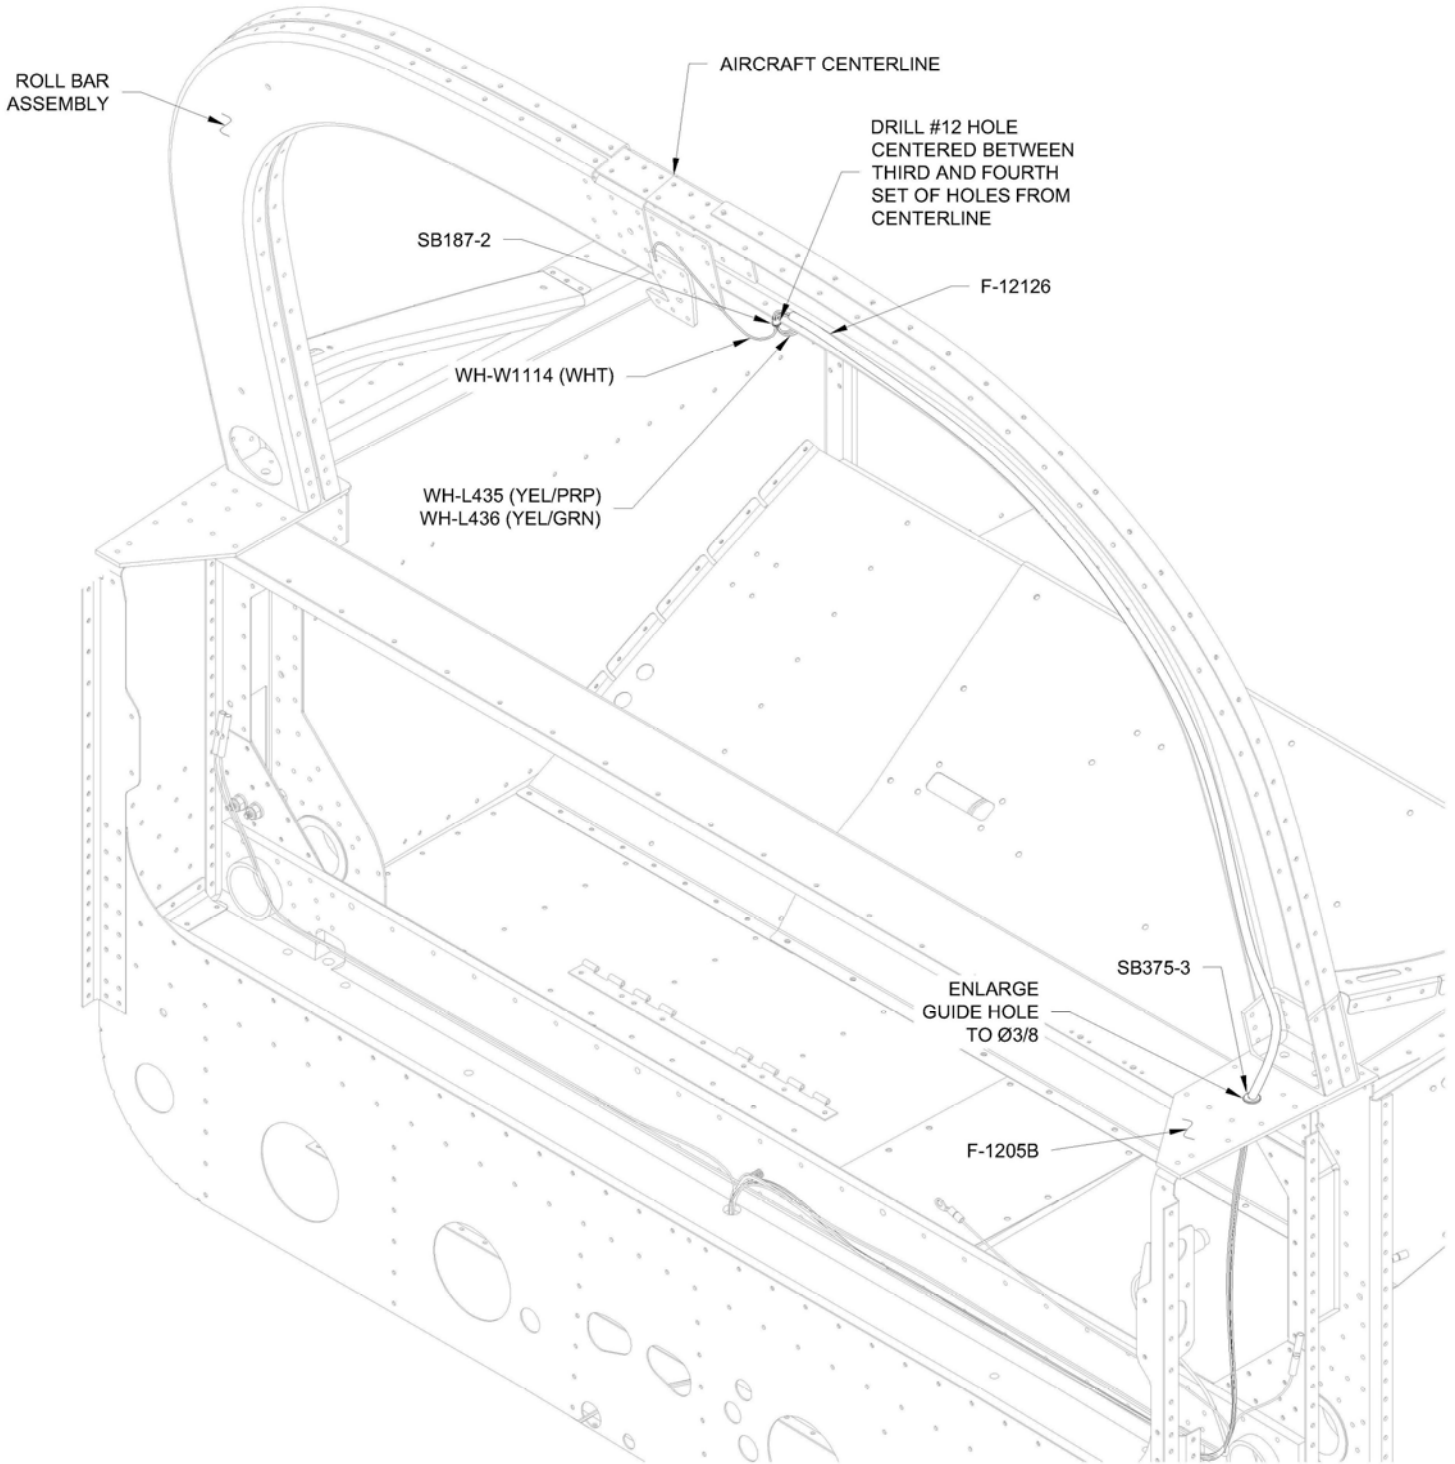

FIGURE 3: WIRE ROUTING
Step 6: Route the WH-00109 wire (WHT) through the snap bushing in the F-1205B Roll Bar Attach Plate as shown in Figure 3.
Step 7: Remove the snap bushing installed in the bottom center of the roll bar for the WH-L435 (YEL/PRP) Cockpit Light Power Wire and WH-L436 (YEL/GRN) Cockpit Ground Wire. See Figure 3.